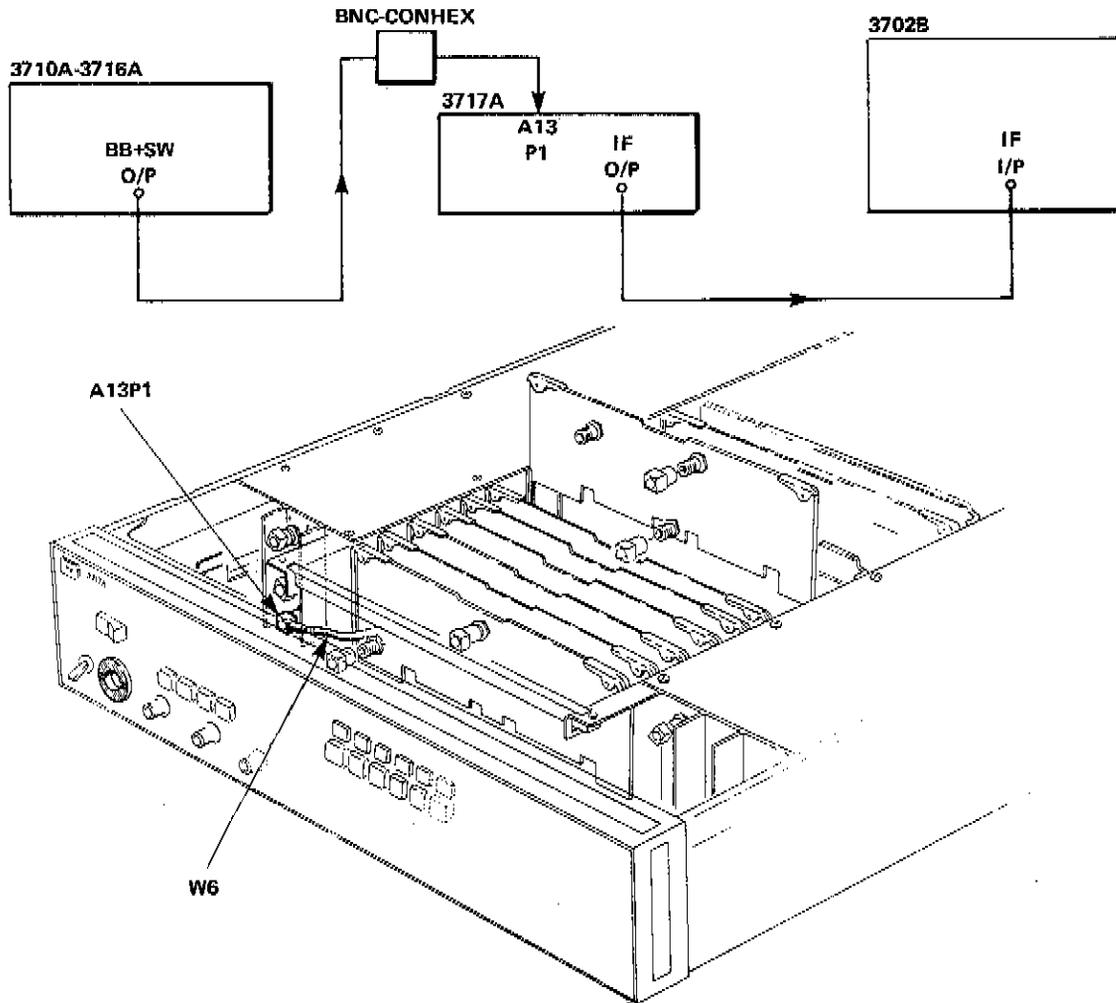

Figure 5-10 Telephony Input Sensitivity Setup and Location of A13P1
2. Connect the equipment as shown in Figure 5-10. Set the controls as follows: